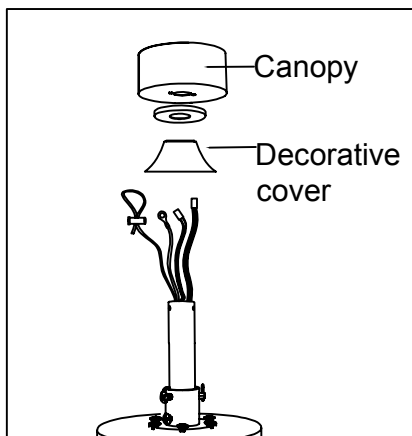

Figure 1.3
- Place all wires through the Decorative cover And Canopy.(Figure 1.3)